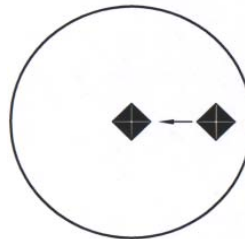

Figure 6-12 Image is on the right side of the center
4. The image is on the right side of the center. Refer to Figure 6-12.